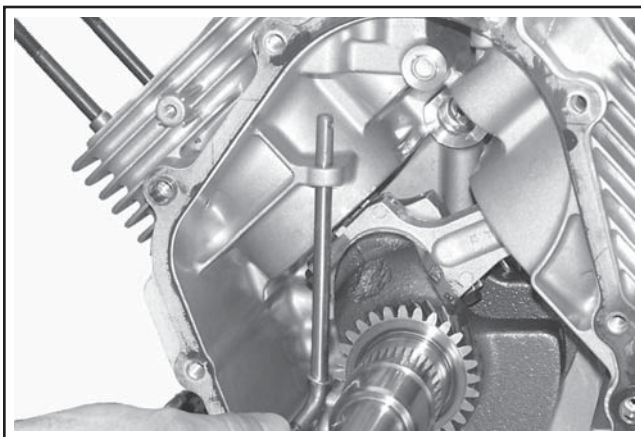

**Figure 10-6. Torquing Connecting Rod End Cap.**
4. Install the inner rod cap to the connecting rod using the two hex flange screws. Torque in increments to **11.6 N·m (103 in. lb.)**. Illustrated instructions are provided in the service rod package. See Figure 10-6.